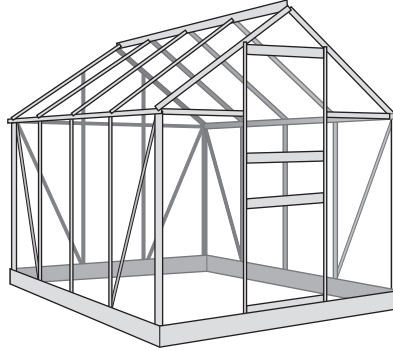

Fig. 1
- 1 Fig. 1 shows a greenhouse with a frame made from aluminium.